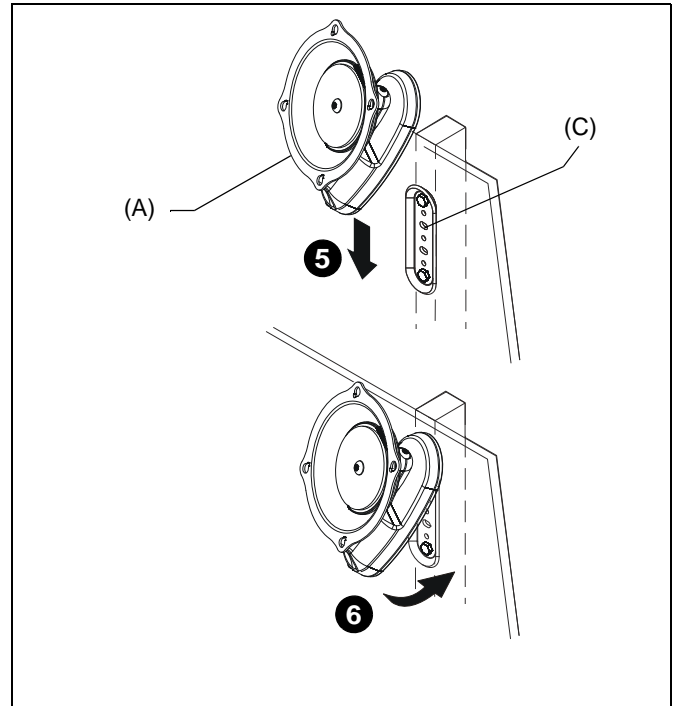

Figure 2
5. Insert top of wall mount (A) over lip on top of wall plate (C). (See Figure 2)